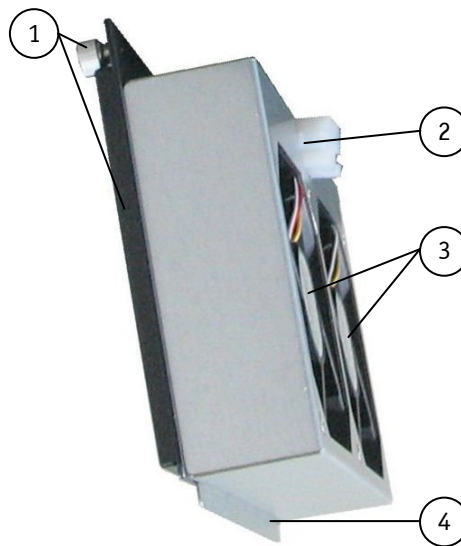

Fig. 27: Fan slide-in module
The two system fans (Fig. 27 and Fig. 47, pos. 3) are integrated in a user-friendly, replaceable fan slide-in module (hot-swap). The fan slide-in module is mounted in a fan compartment on the front side of the system (Fig. 46, pos. 5). These fans are temperature controlled via the temperature sensors installed in the KISS 4U V2 platform. Thus, a reliable air circulation for optimal active cooling of the platform is guaranteed.